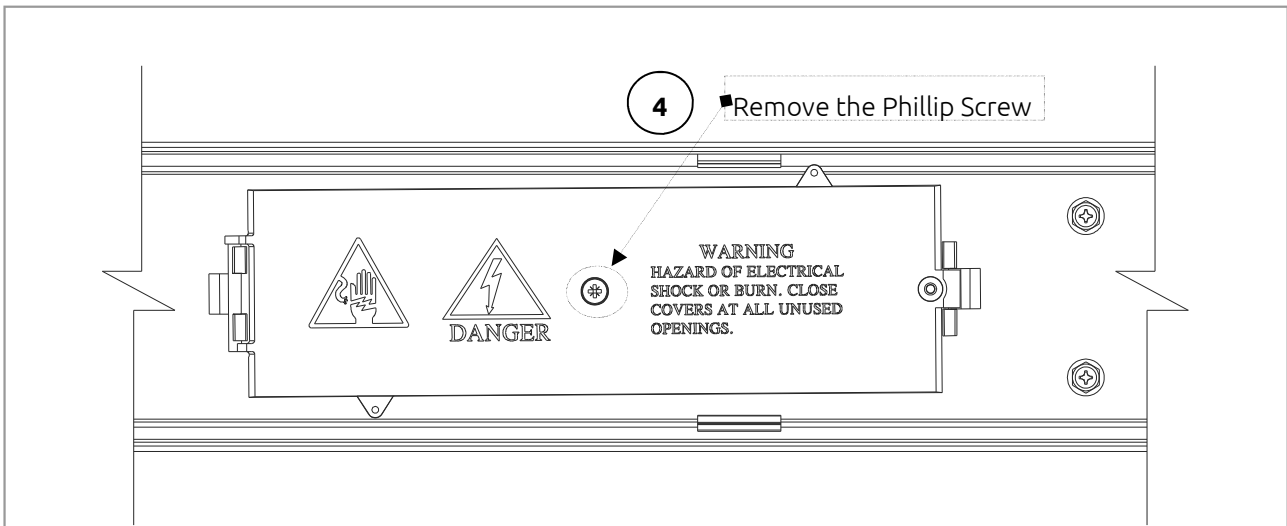

Figure 18.1
4. Open the plug in outlet and remove the cover by removing the Phillip screw. (See Figure 18.1)